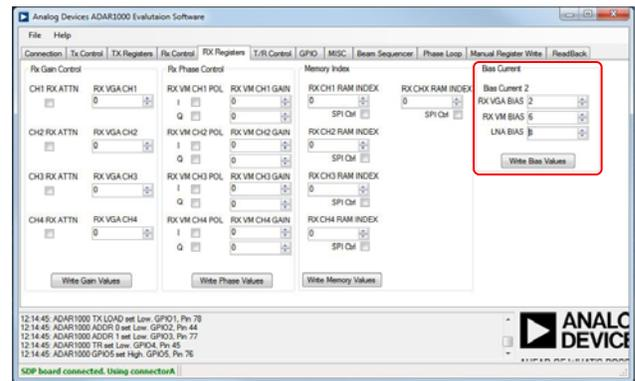

Figure 16. Setting Receive Bias Currents
1. Click the **RX Registers** tab (see Figure 16).